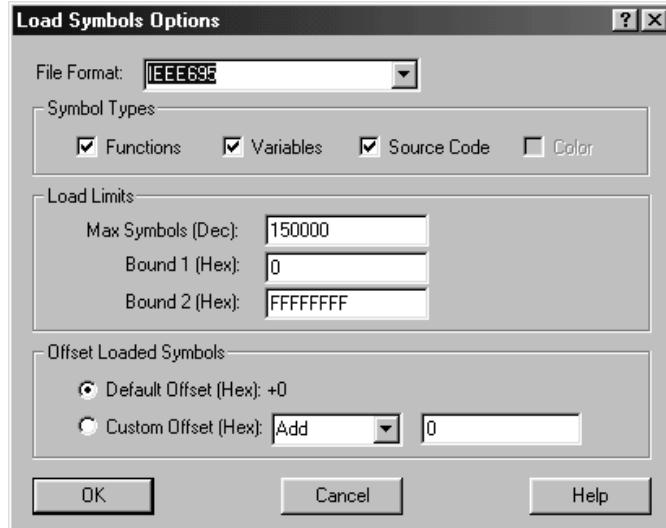

Figure 4-16: Load Symbols Options dialog box
5. Click the Options button. The screen shown in Figure 4-16 appears.